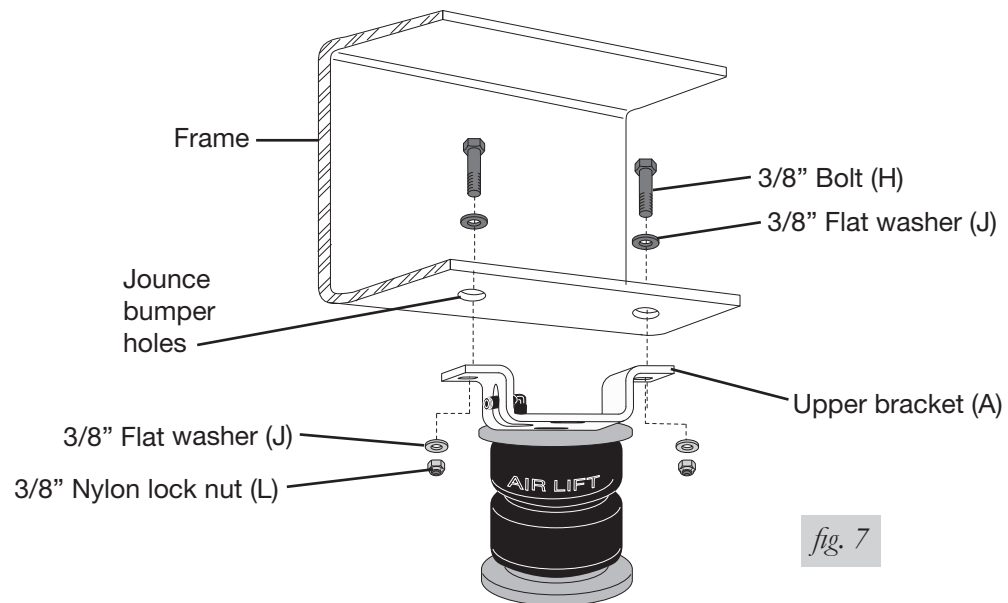

fig. 7
2. Insert two 3/8" bolts (H) and flat washers (J) through the existing jounce bumper holes and through the slotted holes in the upper bracket (Fig. 7).
3. Attach the upper bracket using two flat washers (J) and nylon lock nuts (L) on each previously installed bolt (Fig. 7).
*There should be a thumbs width between the air spring roll plate (D) and the leaf spring U-bolt.*